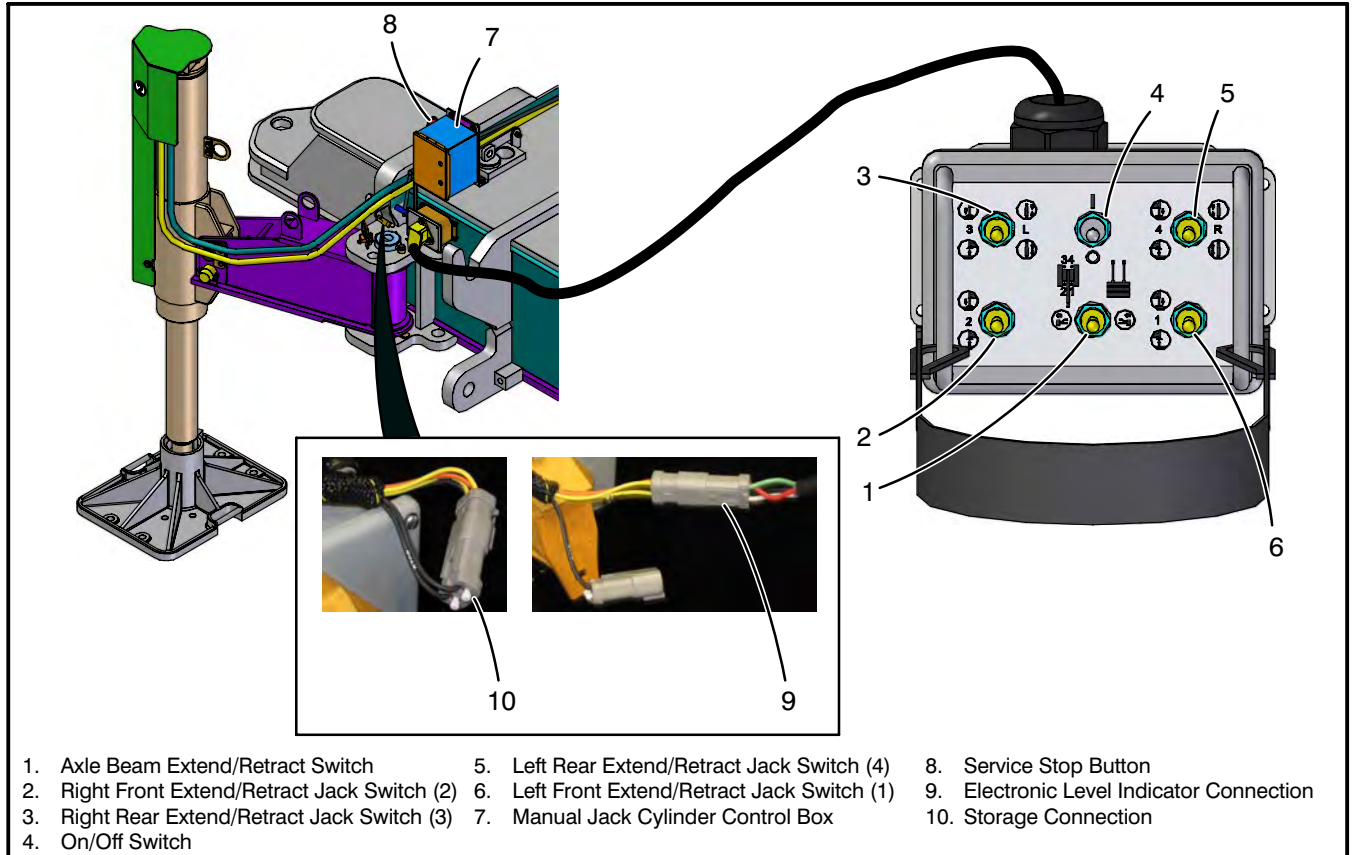

Figure 1-123
8. Connect the remote control box to the lower frame. Refer to Figure 1-123. Move the power switch on the remote control box to the “ON” position.